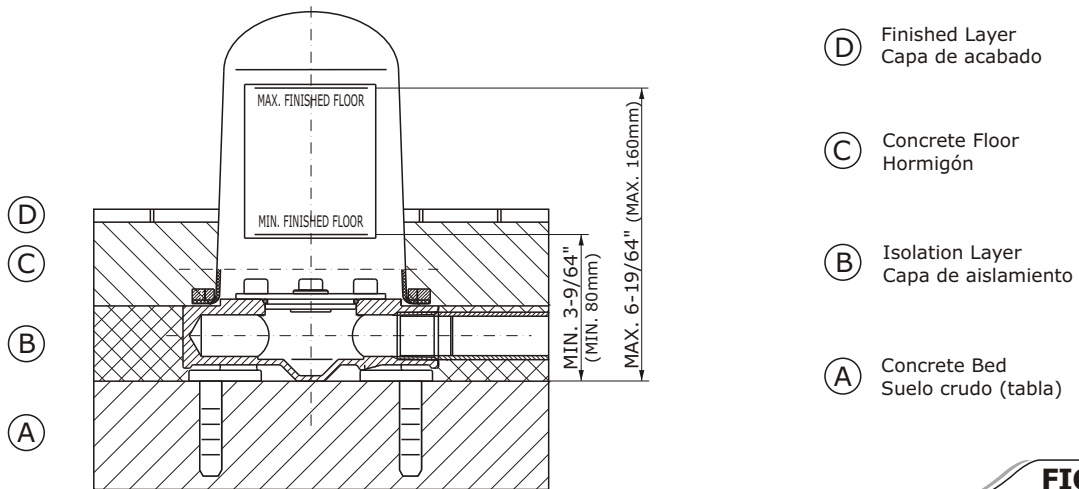

FIG. 4
See fig. 4
- 2) Make the consecutive layers of the flooring as shown on fig.4 paying attention to the correct height of the finished layer, the finished floor level should be in the recommended MIN-MAX range marked on the module cover **(7)**.